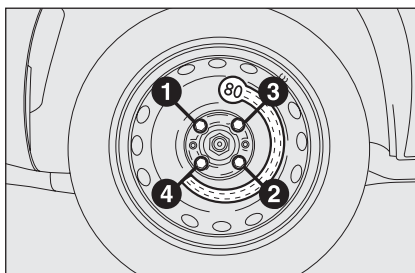

fig. 8
- ☐ using the wrench provided, tighten up the wheel bolts in a criss-cross fashion following the sequence shown in **fig. 8**.
- ☐ Using the wrench provided, fully tighten the bolts in the sequence shown in **fig. 8**;
- ☐ Using the wrench provided, fully tighten the bolts in the sequence shown previously for the space-saver spare wheel (see fig. 8).